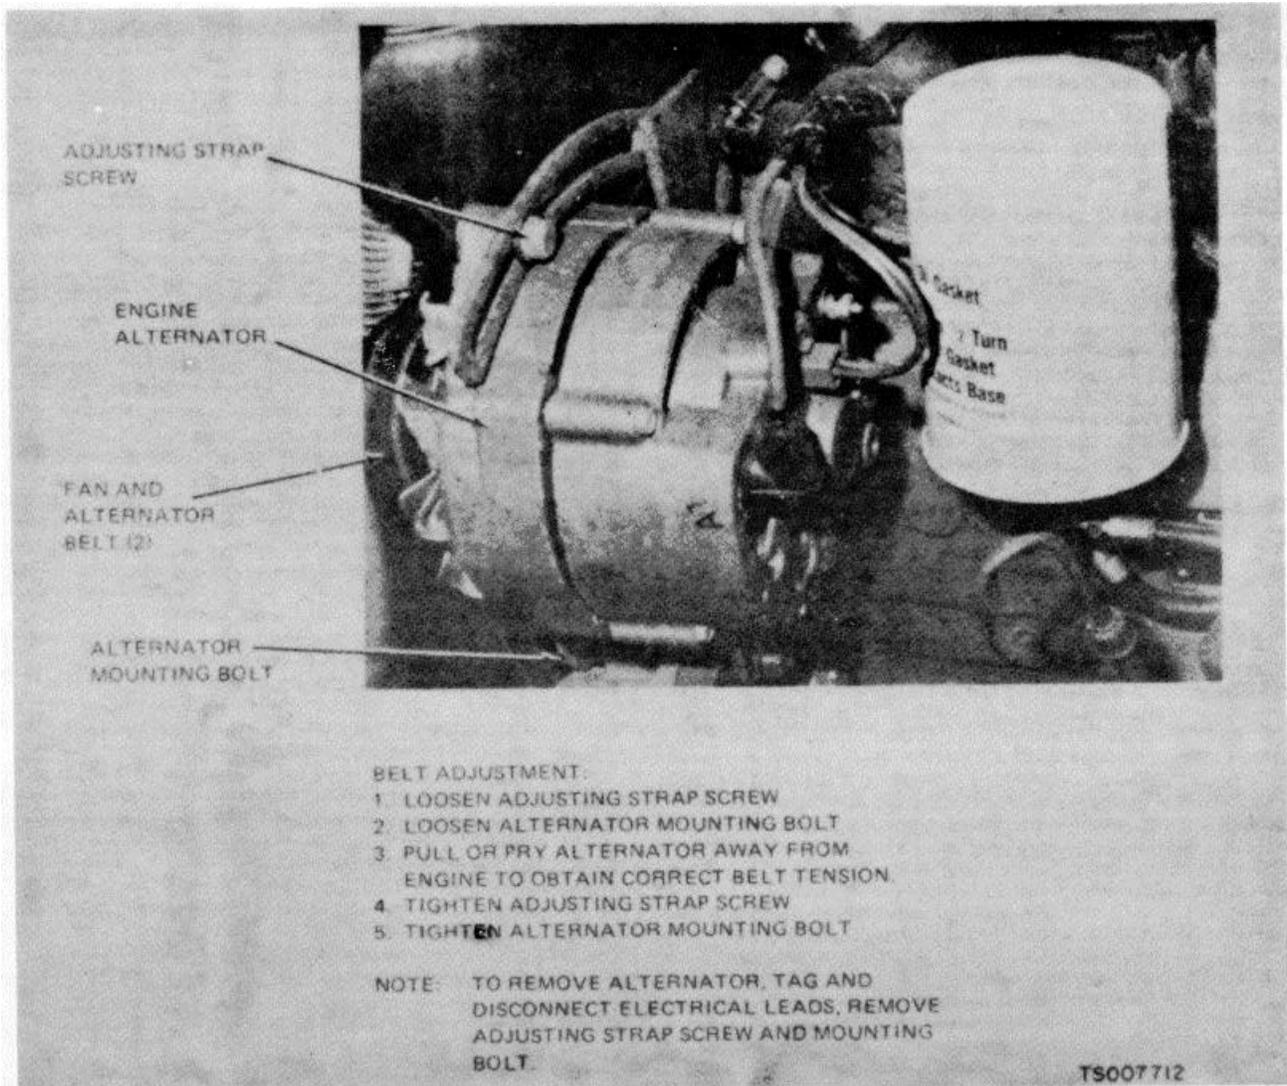

Figure 4-39. Fan and Alternator Belt Adjustment and Replacement, and Alternator Replacement
a. Adjustment. The fan and alternator belts must be tightened so that they can be deflected between 3/4 and 1 inch at a point midway between the crankshaft pulley and the fan drive pulley. If necessary, adjust the belts as shown in figure 4-39.
(1) Loosen the adjusting strap screw (fig. 4-39) that secures the adjusting strap to the alternator. Push the alternator toward the engine to relieve all belt tension.
(2) Slip the belts from the pulleys and over the fan to remove them.
(3) Slip the new belts over the cooling fan